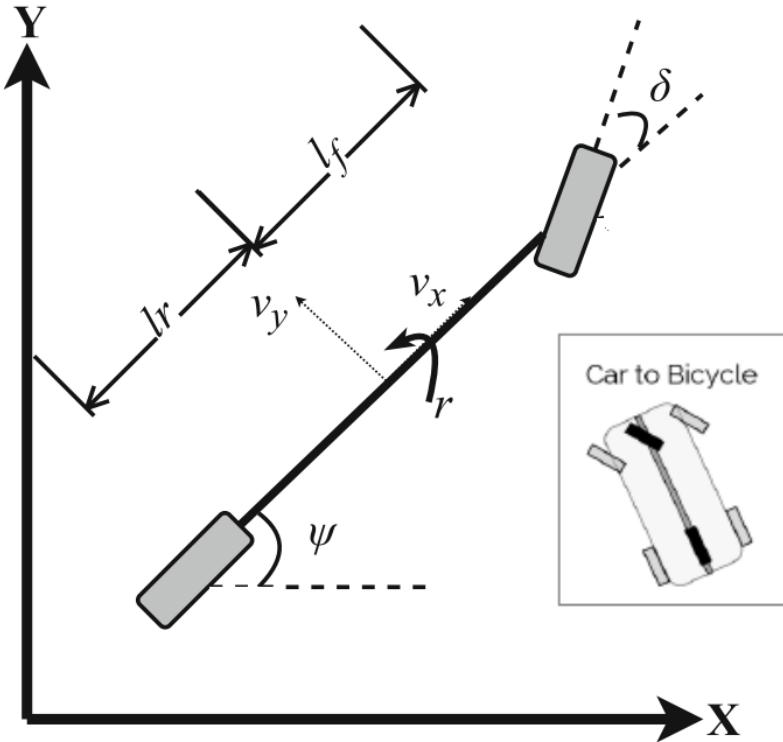

Figure 33: Car to bycycle Model with global and local references depicted with  $v_x = V_{car}$  and  $lr = lf = L/2$
The vehicle is described with 2 sets of Cartesian coordinates, local ( $x$ - $y$ ) and global ( $X$ - $Y$ ). Local coordinates are set to be fixed on the vehicle body. Global coordinates, on the other hand is set to be fixed on the earth coordinates. Local coordinates are always regarded as moving coordinates with respect to the global coordinates. Fig. 33 shows both the frameworks and nomenclature adopted here. The vehicle moves on the plane and its coordinates are described by the vector  $(x, y, \Psi)$ , where  $x, y$  is the position of the centre of gravity and  $\psi$  is the orientation (heading) of the vehicle.
**Task:** Consult the Fig.33. Given that  $lr = lf = L/2$  with  $L$  being the length of the wheel-base, precise which is local framework? which is the global framework? Which is the steering angle? Which is the heading angle? What is the difference between heading and steering angle? If  $r$  represents the change in yaw i.e.  $r$  is the yaw rate, express  $r$  in terms of  $\Psi$ .